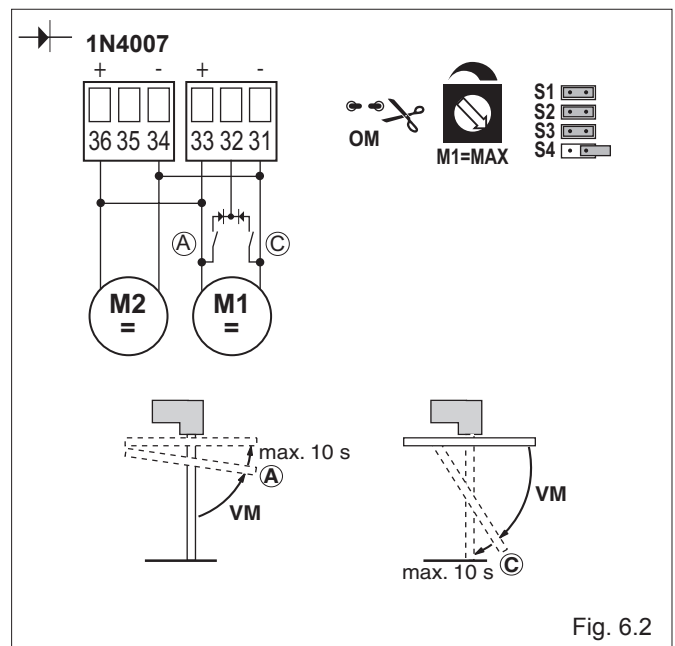

Fig. 6.2
**(Fig. 6.2) Use with slow down limit switch**